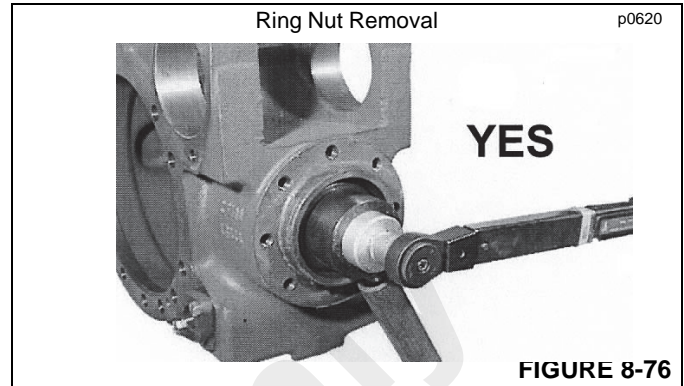

FIGURE 8-76
3. Remove the ring nut (Figure 8-76) with SPECIAL TOOLS (Figure 8-21 and Figure 8-26).